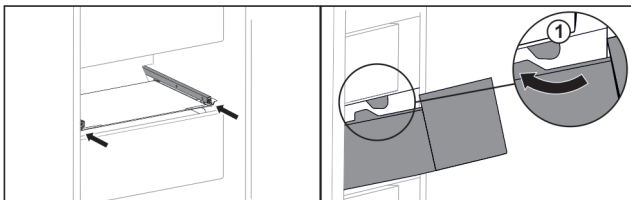

Fig. 34
- Guide the drawer around the stoppers Fig. 34 (1).